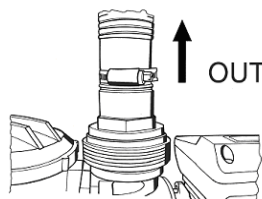
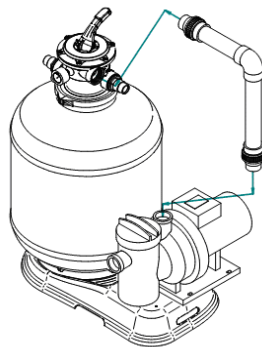
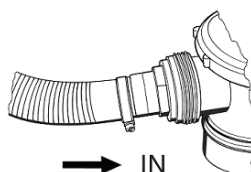
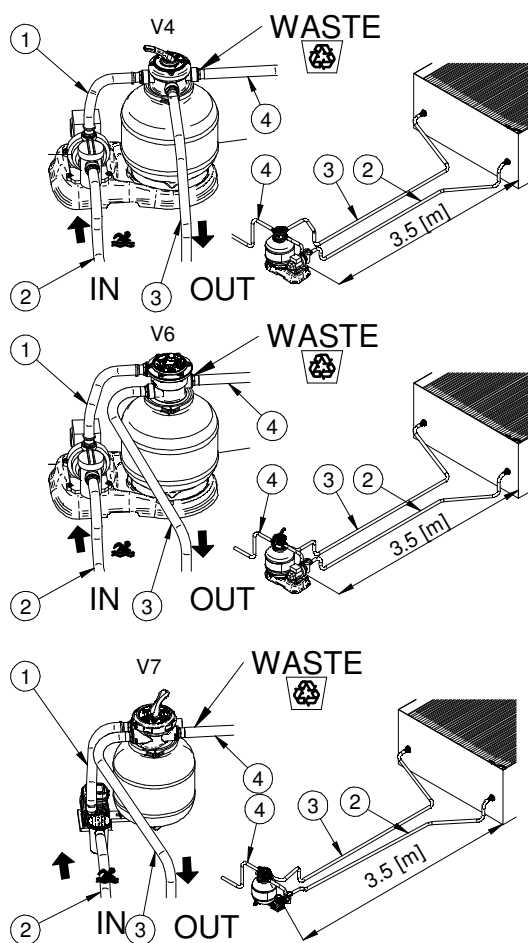

Fig. 27
Fig. 28
Fig. 29
Fig. 30
1. **Pressure connection** (Fig. 30, # 1): join the *filter pump* (outlet Fig. 27, OUT) to the *multifunction valve* (**PUMP**), using the corrugated pipes or the rigid connection (Fig. 28).
2. **Skimmer tube** (Fig. 30, # 2): join the *skimmer* connection to the frontal connection of the *filter pump* (inlet Fig. 29, IN).
3. **Return-tube** (Fig. 30, # 3): join the connection on the 4 or 6 ways *multifunctional valve* marked with **RETURN/POOL** to the entrance mouth connection of the swimming pool. Tight with special hose clamps the tubes on the connections (*hydraulic parts*).
4. **Backwash-tube** (Fig. 30, # 4): to be used when we apply the **BACKWASH** function to drain the dirty water in a discharge area. For the connection use proper rubber tubes and proper hose clamps (*hydraulic parts*).